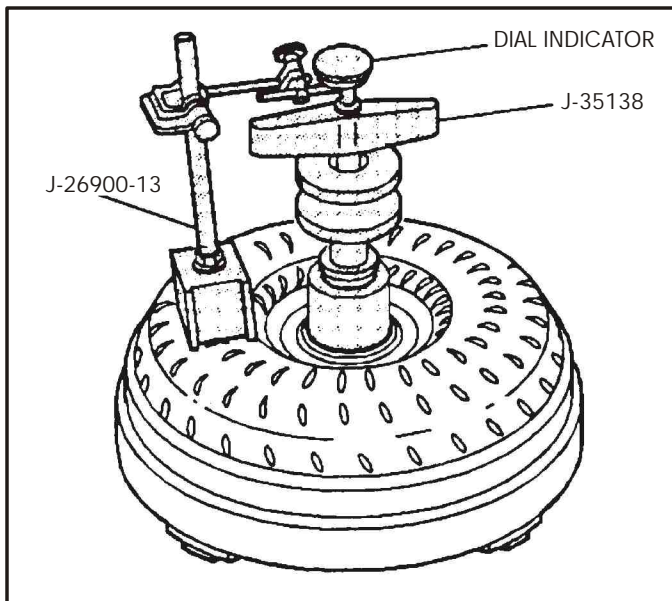

Figure 213
38. Position the torque converter on the bench with flywheel lugs facing down (See Figure 213).
39. Install the end play measuring tools as shown in Figure 213 onto the converter.